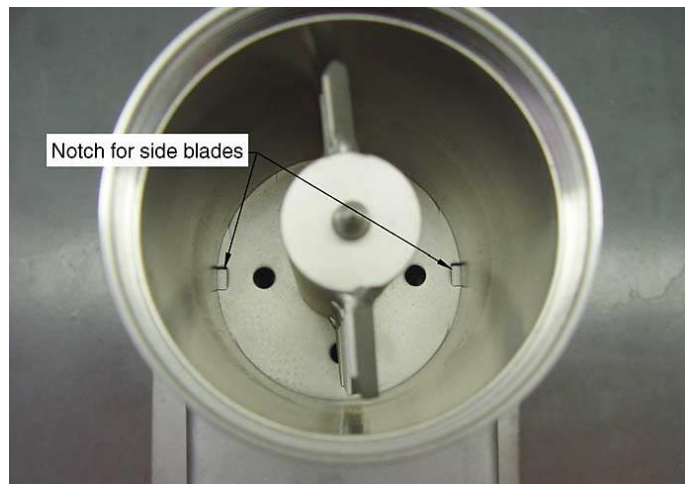

Figure 3-7 Center Paddle in Place (Top Support with Notch for Side Blades Shown)
5. Place the center paddle with the top support and notch for side blades (Figure 3-7).